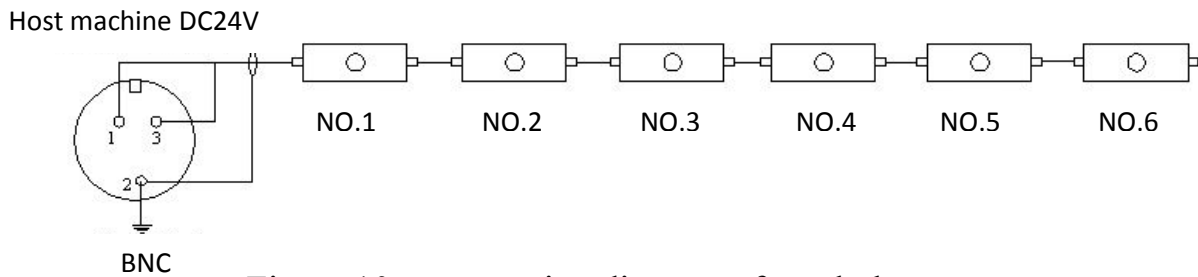

Figure 10a: connecting diagram of spark detectors
2) Since the signal is transmitted via the power carrier, the connection between the detectors can adopt to the practical situation flexibly. Figure 10a and 10b show such typical connections. The connection principal is that the shorter the distance between the host machine and the detector is, the better the